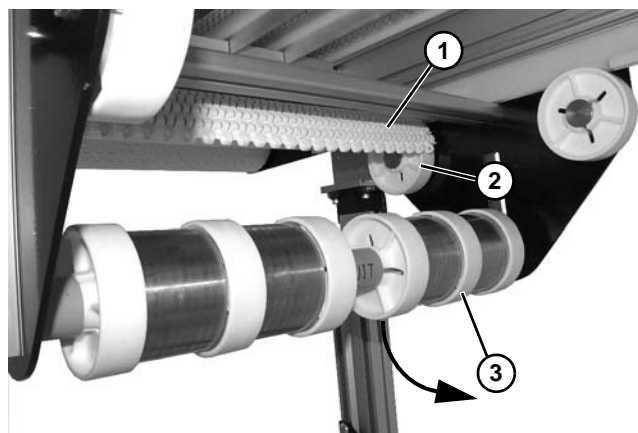

Figure 19
7. Weighted Take-Up: Wrap belt (**Figure 19, item 1**) over pucks (**Figure 19, item 2**) and around bottom of weighted shaft (**Figure 19, item 3**).